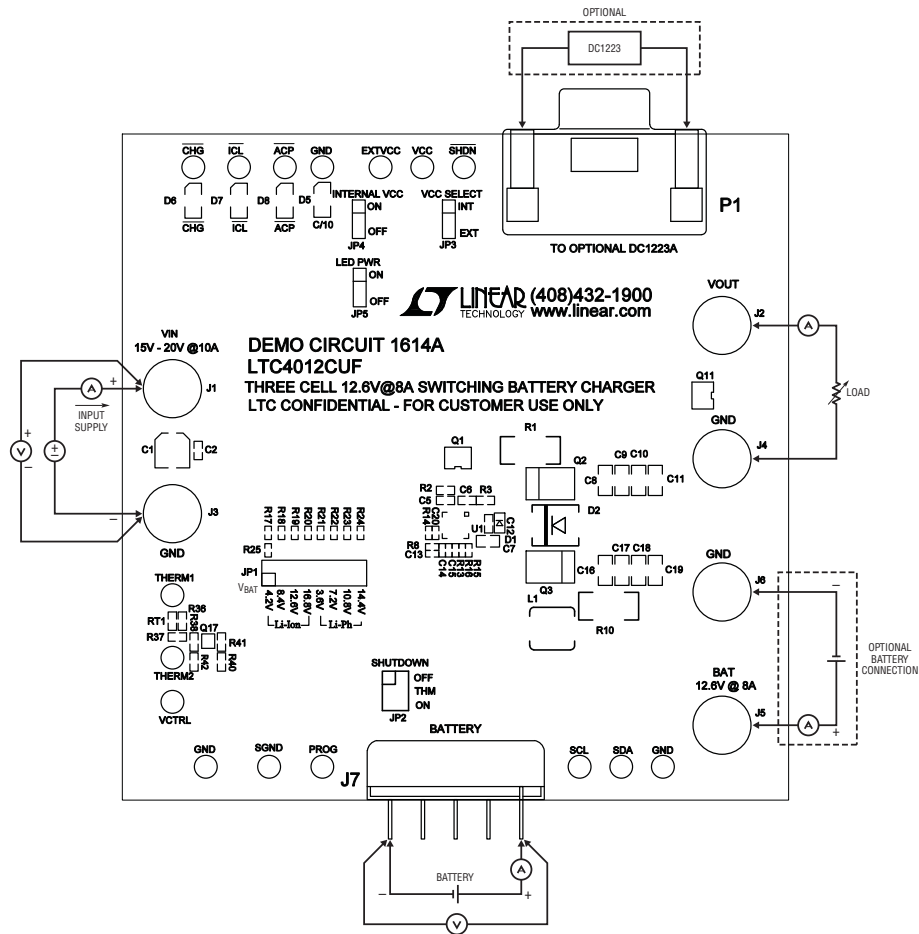

Figure 1. Proper Measurement Equipment Setup
Demonstration circuit 1614 is easy to set up to evaluate the performance of LTC4012. Refer to Figure 1 for proper measurement equipment setup and follow the procedure below.
1. With all power off, connect an input power supply capable of more than 10A, system load, battery, and meters as shown in Figure 1. Preset the load to 0A and  $V_{IN}$  to 0V, 0A current limit. The input supply voltage **must** be greater than the full voltage value of the battery to allow a full charge to take place.
9. Optionally use the provided DC1223A-B demonstration software to configure and communicate with the DC1614A, connecting DC1223A-B as in Figure 1.